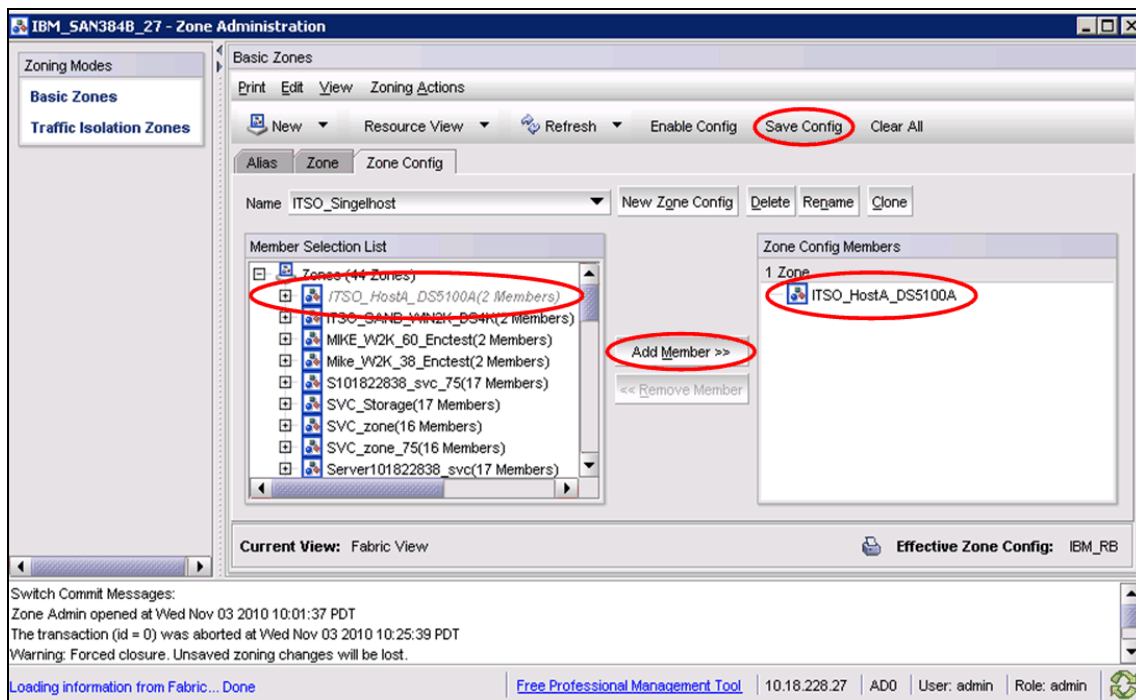

Figure 12-38 Zone Config
- Click **Add Member** to add zone configuration members. The selected members are moved to the Config Members window, as shown in Figure 12-38.
Click **Save Config** to save the zone configuration changes. without applying them to the fabric, as shown in Figure 12-38.